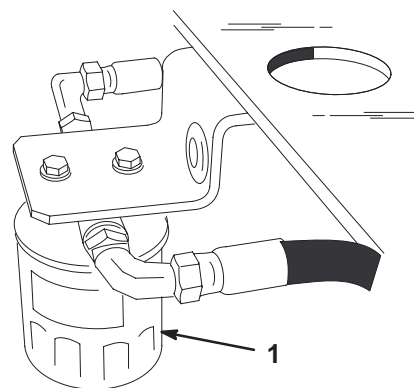

Figure 45
3. Place drain pan under filter, remove the old filter and wipe the filter adapter gasket surface clean (Fig. 45).